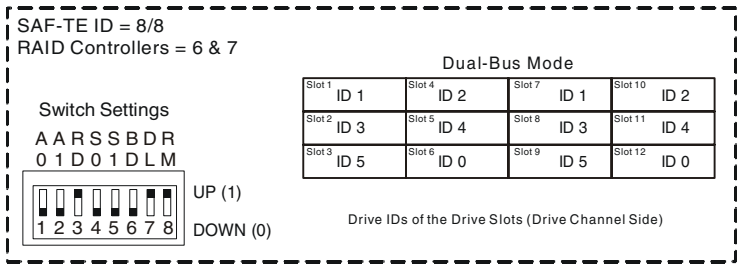
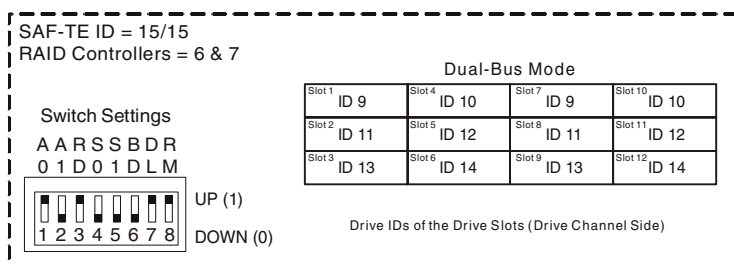

Figure 2-13 Dual-Bus Switch Setting – Option 1 (DuraStor 6320SS)
Figure 2-14 Dual-Bus Switch Setting – Option 2 (DuraStor 6320SS)
- 3 Locate the switches on the card and set them as shown in either Figure 2-13 or Figure 2-14.